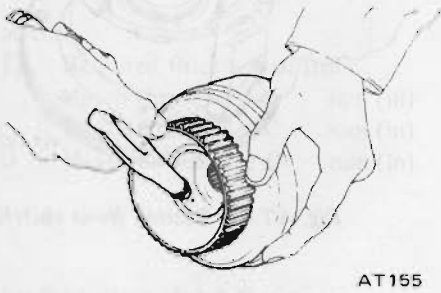

Fig. AT-87 Blowing out piston
3. Blow out piston by directing a jet of air into hole in clutch drum. See Figure AT-87.